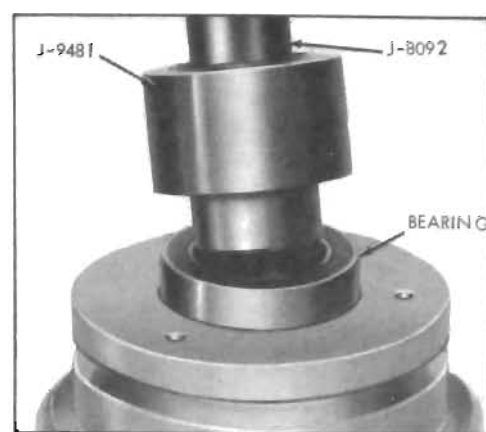

Figure 11-67—Installing Bearing into Pulley Assembly
8. Drive new bearing into pulley assembly (see Figure 11-67) with